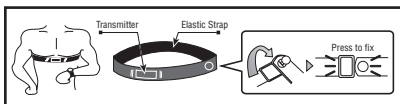

Fig 6
1. Position the chest transmitter below the breast/pectoral muscles as shown in Figure 6. Adjust the tightness of the transmitter strap to achieve a snug, comfortable fit.